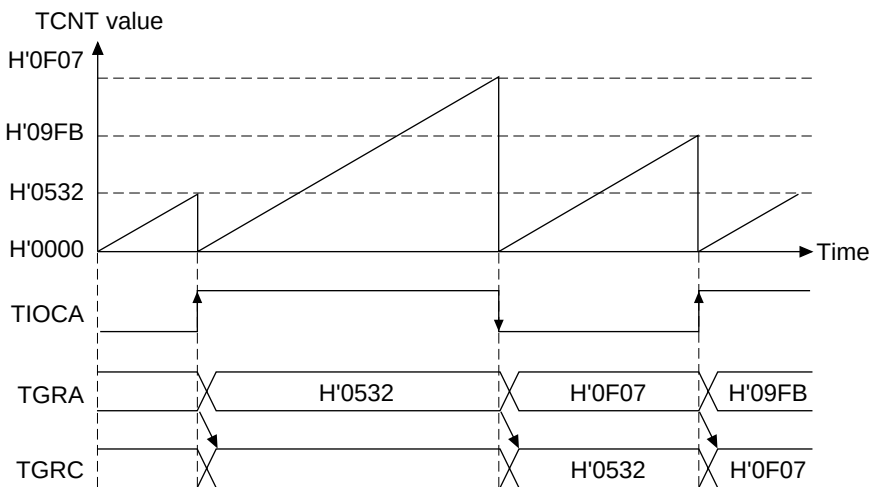

**Figure 12.21 Buffer Operation Example (Input Capture Register)**
**Buffer Operation Examples—when TGR Is an Input Capture Register:** Figure 12.21 shows an example of TGRA set as an input capture register with the TGRA and TGRB registers set for buffer operation.